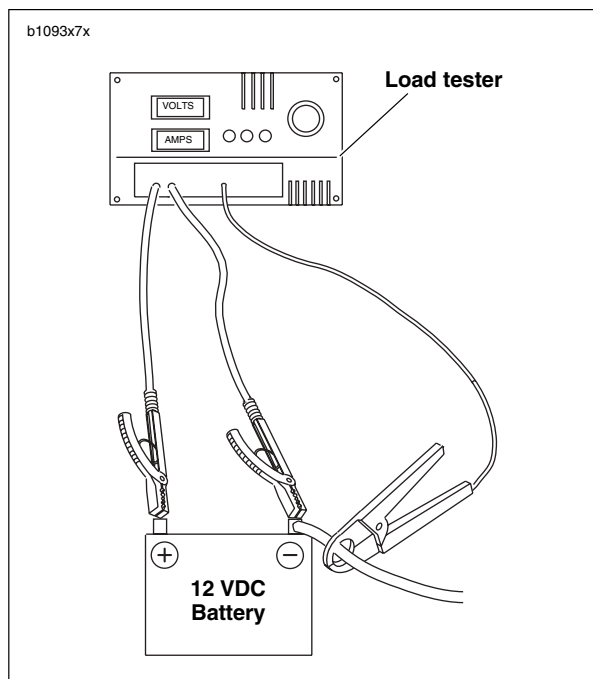

Figure 7-27. Check Current Draw (Ignition Switch On)
1. See Figure 7-27. To check for this condition, place load tester induction pickup or current probe pickup over battery negative cable.